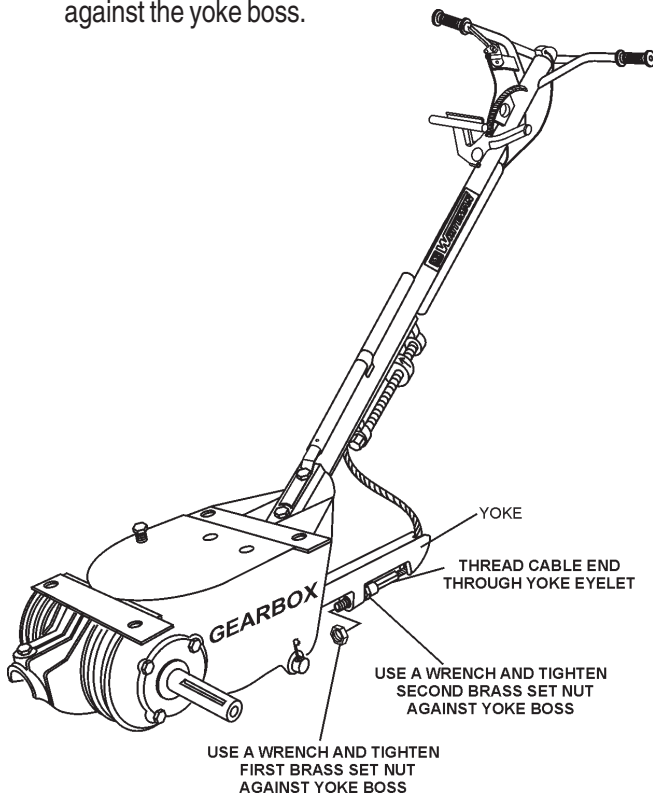

Figure 8. Cable Yoke Attachment
5. Insert the cable end through the yoke eyelet (Figure 8). Tighten the first brass set nut by hand to remove all the slack from the cable.